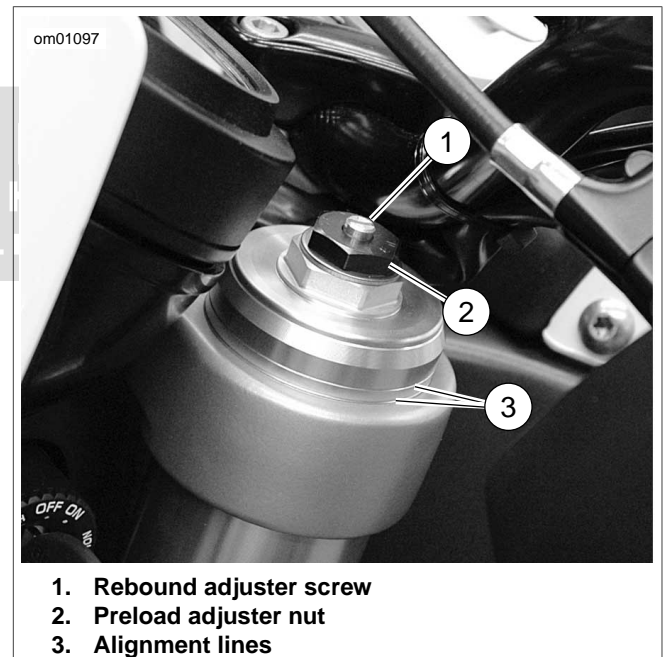

Figure 2-101. Front Fork Preload and Rebound Adjuster: XB All Models
10. See Figure 2-101. Position both forks with same number alignment lines (4) visible and reflectors facing to the sides. Do not tighten.
9. See Figure 2-101. Position both forks with same number alignment lines (4) visible and reflectors facing to the sides. Do not tighten.